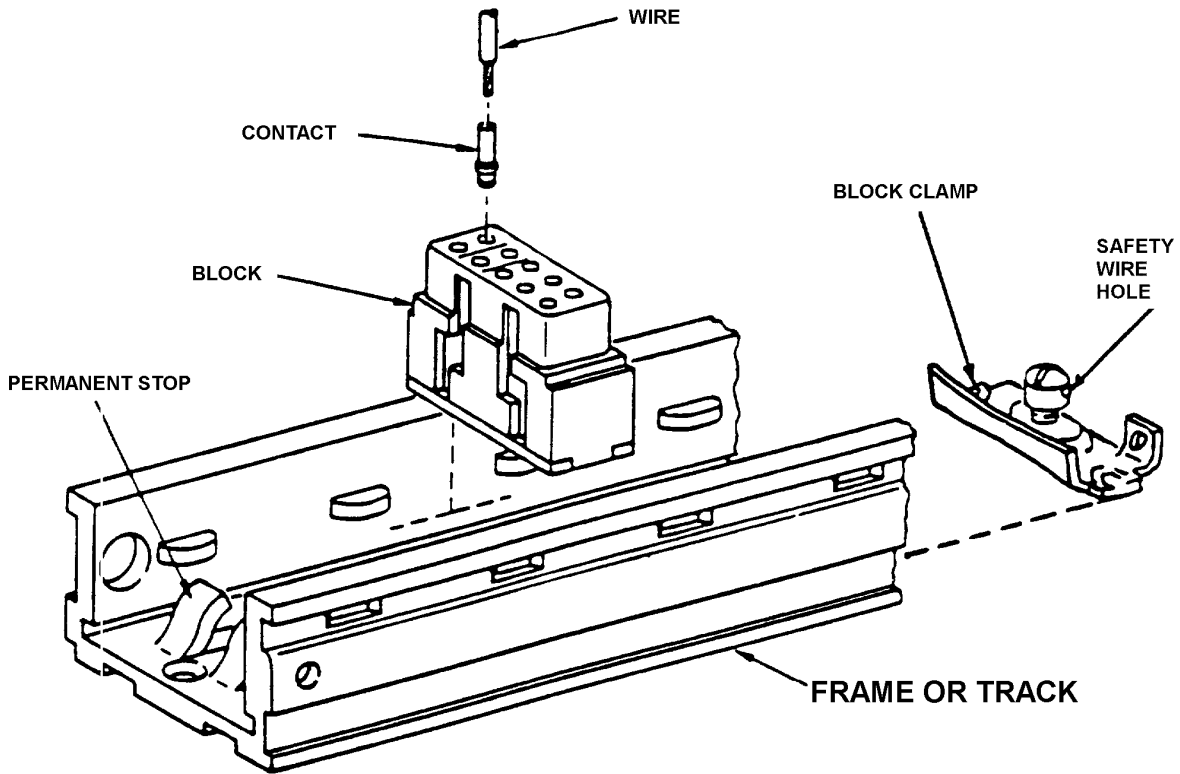

Figure 17. Feedback Terminal Junction Assembly
32. SERIES I BLOCK RAIL/BRACKET INSTALLATION AND REMOVAL. Install the blocks in the specified MIL-T-81714 track or bracket as follows (Figures 17 through 21):
- a. Loosen screw in locking clamp and slide clamp to end of rail opposite the stop (Figures 17 and 20).
- b. Insert block into rail next to locking clamp with block index indicator on grommet on same side as the rail indexing indicators. A block can only be installed one way in the rail (Figures 17 and 20).